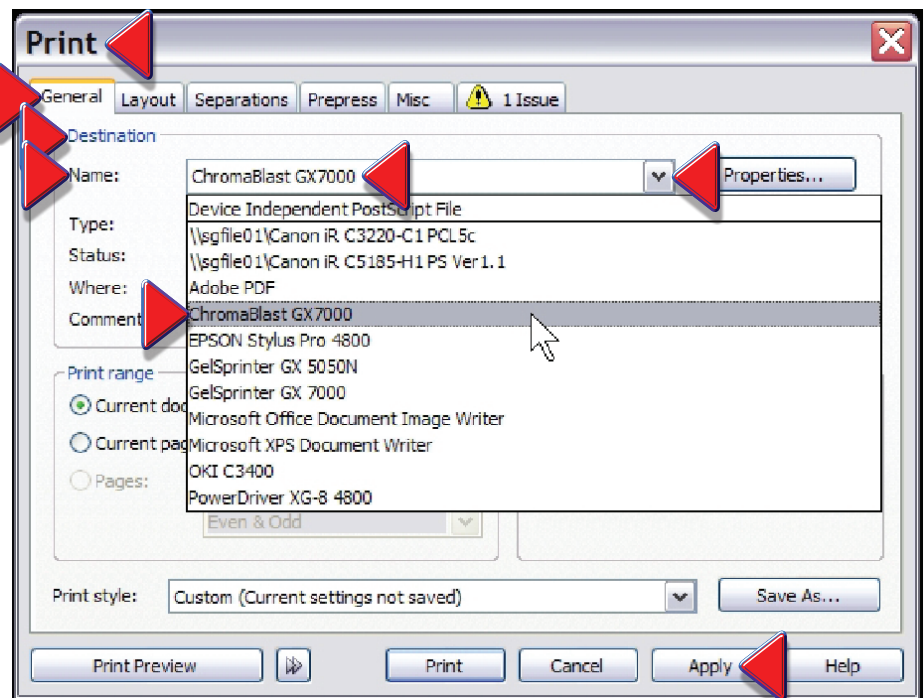

Figure 5
b. In **CorelDraw** or **Photo-Paint**, **Print** dialog, **General** Tab, **Destination, Name:**, select **Chromablast GX7000** in the drop-down (▼) menu (see Fig 5). **Do not select the Ricoh printer.** Click **Apply**.